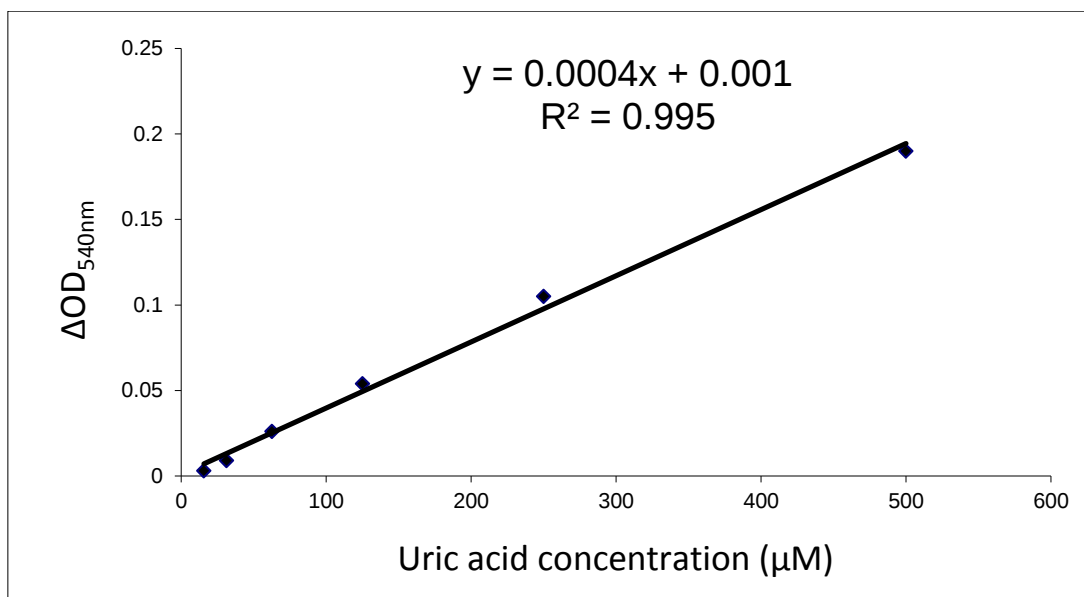

Figure1. A typical uric acid standard curve measured by ScienCell™ Uric Acid Assay kit
Data from Uric Acid Assay of uric acid solutions with concentrations ranging from 15 to 500 μ M show a linear relationship between OD_{540nm} and uric acid concentration (Figure 1).
2. Based on the calibrated $\Delta\text{OD}_{540\text{nm}}$ of the uric acid standard, make a standard curve by plotting $\Delta\text{OD}_{540\text{nm}}$ as a function of uric acid concentration (See Figure 1 for a typical standard curve). Determine the equation and R^2 value of the trend line.